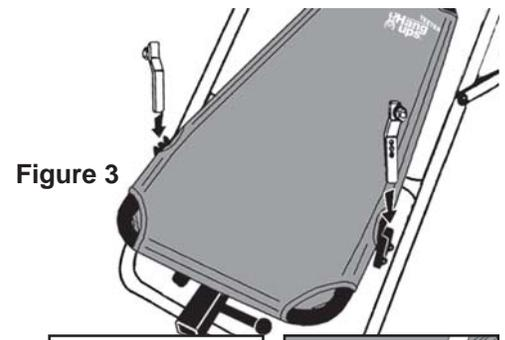
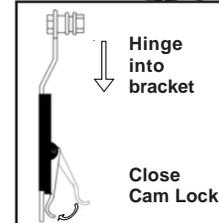

Figure 3
Figure 3A
- With the grooved pivot pins facing out, insert the Roller Hinges into the brackets on each side of the Table Frame. (See Figure 3) The Roller Hinges will slide between the Cam Locks and the brackets. (See Figure 3A)